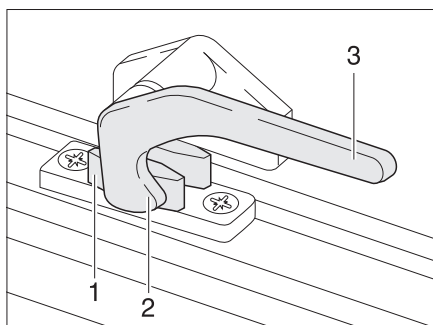

Fig. 8 Catch lever in "closed" position
- Turn the catch lever (Fig. 8,3) a quarter turn towards the centre of the window.
- Turn the catch lever (Fig. 8,3) a quarter turn towards the window frame. The locking catch (Fig. 8,2) is located on the inside of the window catch (Fig. 8,1).
- Return the catch lever to its initial position. The locking catch (Fig. 8,2) has to be moved into the recess of window catch (Fig. 8,1).